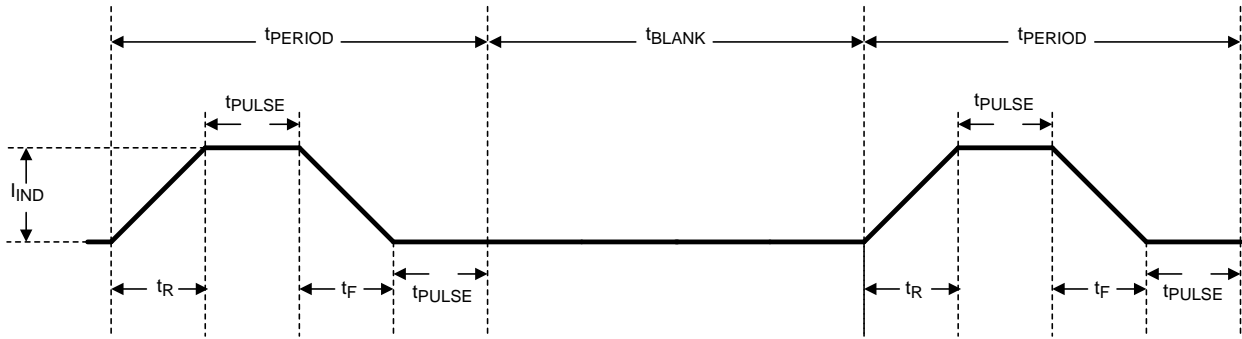

Figure 32. Message Indicator Timing Diagram
2. Number of periods (PERIOD #). This has 8 steps. A period ( $t_{PERIOD}$ ) is found by ( $t_{PERIOD} = t_R + t_F + 2 \times t_{PULSE}$ ). (see Figure 32 for indicator timing).